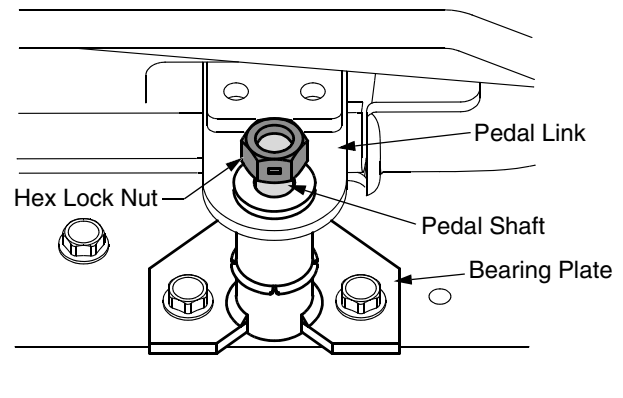

Figure 5
- From beneath the right running board, locate the hex lock nut on the end of the pedal shaft. Using a 3/4" socket and long socket extension, loosen the lock nut so that it is unthreaded beyond the end of the pedal shaft threads. See Figure 5.
- Fully tighten the hex jam nut onto the special screw. Then from beneath the right running board carefully retighten the hex lock nut to reposition the pedal shaft. Refer to Figure 5.